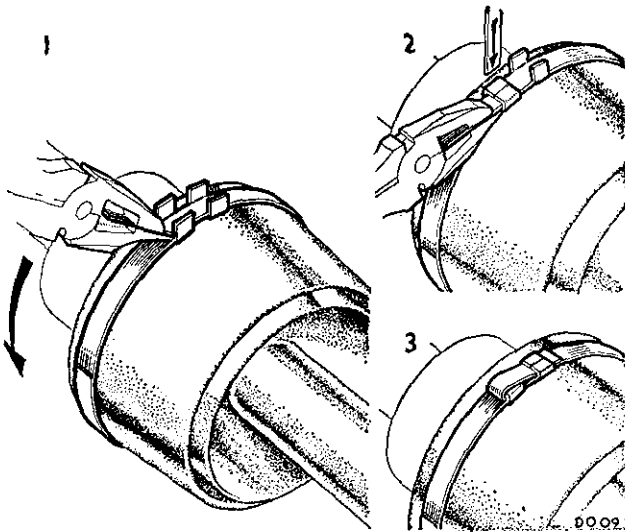

Fig. G.6
●Fig. G.6
- (25) Hold the shaft in a vice and locate the inner race on the shaft. Press the joint assembly against the spring ring whilst locating the ring centrally and contracting it in the chamfer of the inner race with screwdrivers. With the spring ring centralized, a sharp tap on the end of the stub shaft with a soft faced mallet will close up the ring, and the assembly can then be tapped on to the drive shaft. Make sure that the shaft is fully engaged, with the inner race against the circlip and that the inner ring has expanded inside the joint.
- (26) Slide the rubber boot over the bell joint until the radiused rib registers in the locating groove, and secure it with the large clinching clip using Service tool 18G 1099 (Fig. G.6). This is fitted with the tab pulled through away from the direction of forward rotation. Locate the other end of the boot in the groove in the drive shaft and secure it with the small clinching clip using pliers 18G 1099.
●NOTE.—A modified rubber boot which has axial convolutions (see Fig. G.6) should be fitted when a replacement is required. ●
- (27) Lubricate the yoke end of the drive shaft and the inside of the yoke housing seal and slide the seal onto the shaft. Fill the cavity in the sliding joint yoke with $\frac{3}{4}$ oz. (21 gm.) of Duckham's M-B grease and fit the yoke to the shaft. Locate the seal into the groove on the shaft and the other end over the sleeve location. Push the shaft to the bottom of the yoke so that grease is driven into the seal. Hold the outer lip of the seal open to allow air and surplus grease to escape, ensure that the diameter of the bellows does not exceed 1.75 in. (44.5 mm.). Secure the yoke seal with clinching clips using pliers 18G 1099.